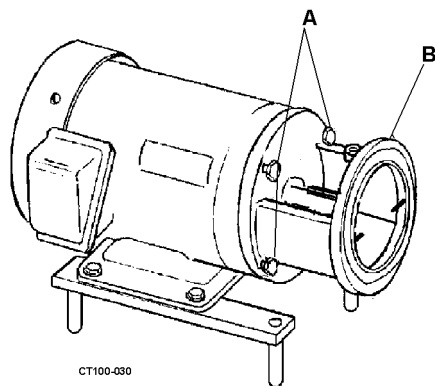

Figure 20 - Removing the Adaptor
- Remove the bolts securing the adapter (See Figure 20 item A and B) to the motor frame and remove the adapter.